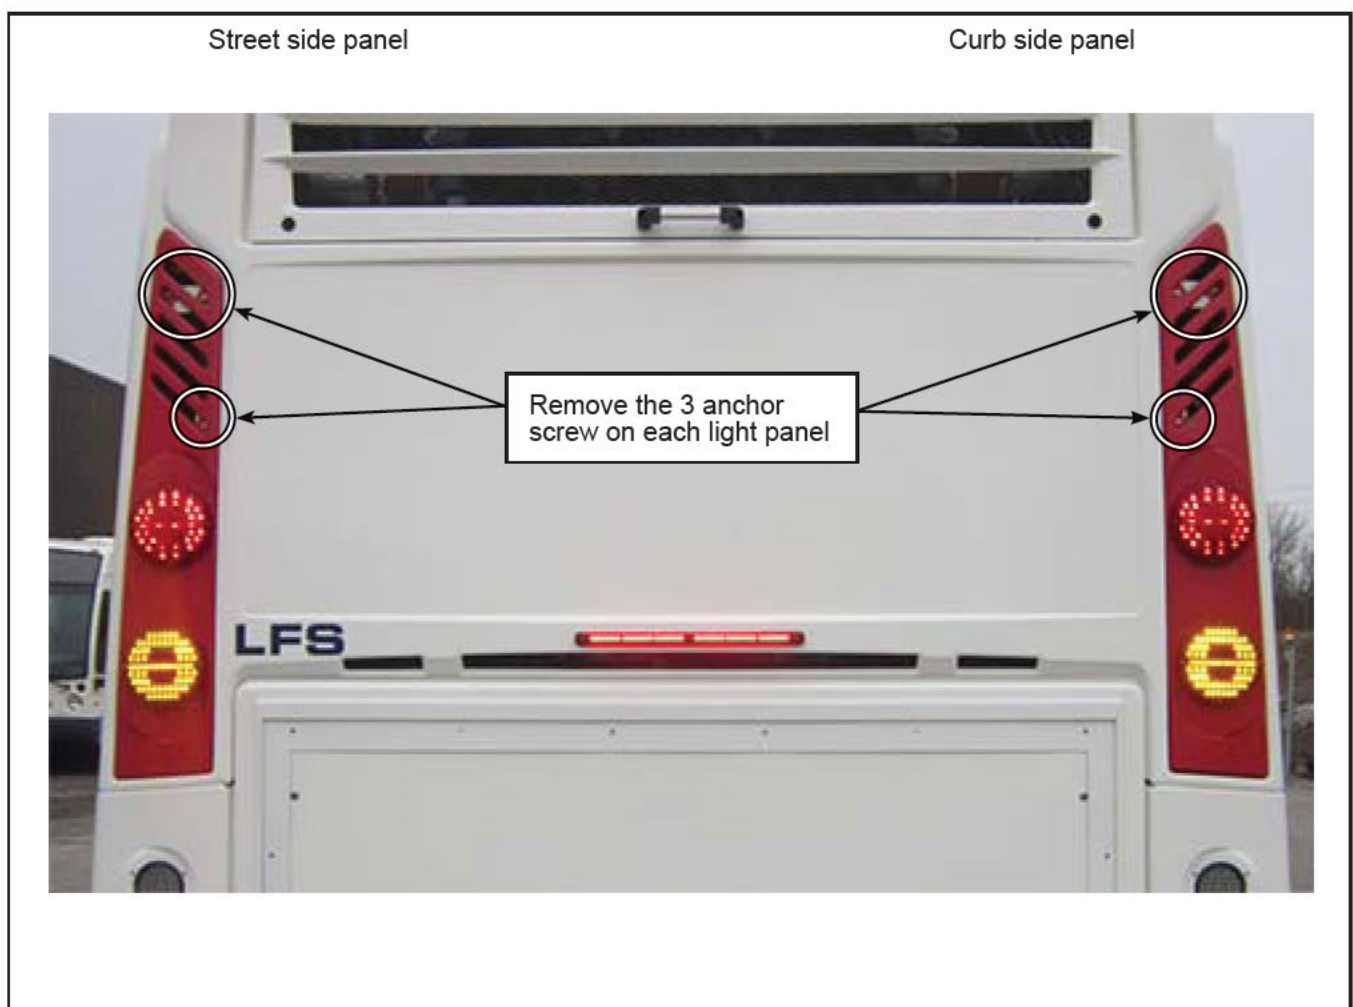

Figure 1 - Light Panel Screws to Remove
- 1.1. Remove the 3 anchor screws retaining the street and curb side light panels. If one of the screws spins or it is hard to remove, you will need to perform the level 2 rivnut replacement procedure. See Figure 1